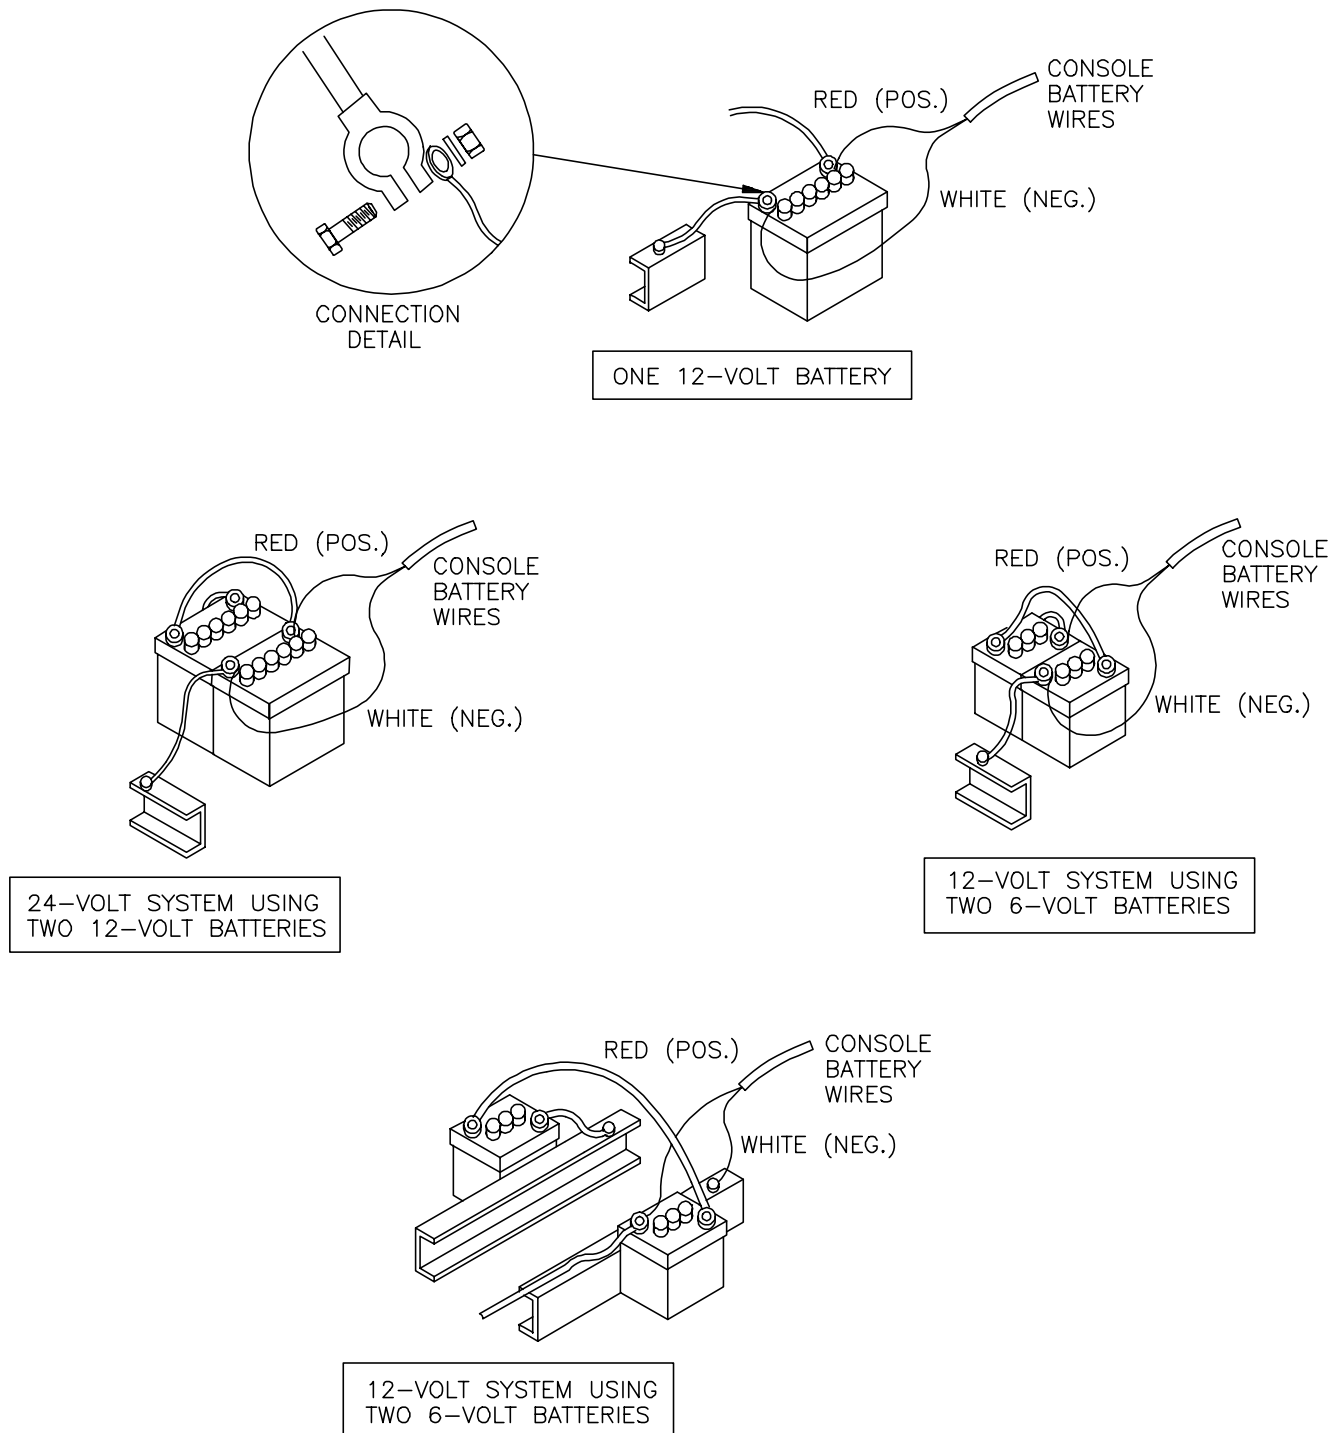

FIGURE 5
- 4) Turn MASTER ON/OFF switch OFF and route the Red and White battery wires to a 12-volt battery. Attach the White wire to the **NEGATIVE (-)** terminal and the Red wire to the **POSITIVE (+)** terminal. (**DO NOT CONNECT WIRES TO THE STARTER**). Secure the battery wires with plastic cable ties. **DO NOT** tie the battery wires close to the existing battery leads or other electrical wiring. (See Figure 5 on page 6).